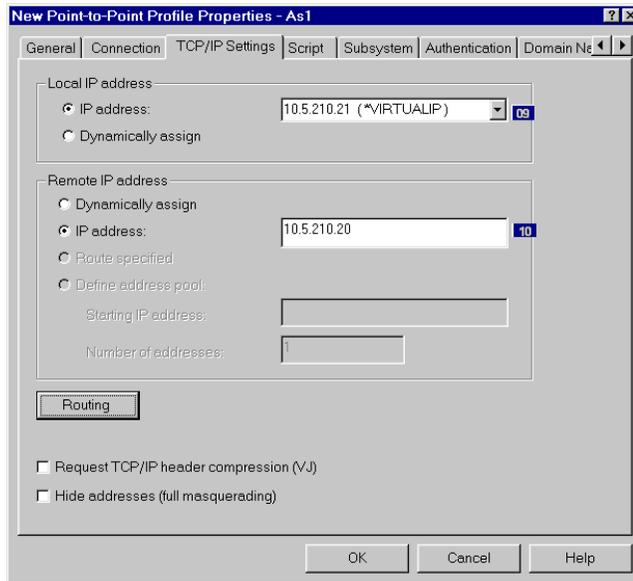

Figure 101. Assigning the local and remote IP address
7. Click the **TCP/IP Settings** tab (Figure 101 on page 116).